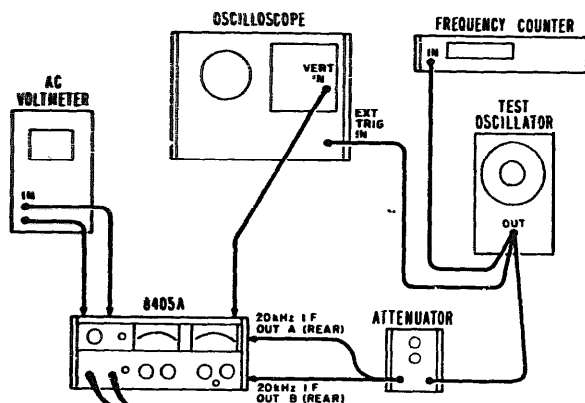

Figure 2B Setup for IF Tuning, IF Gain and PF Sampler Adjustments
- a. **Connect test equipment as shown in Figure 2B. Connect AC Voltmeter between A5Q1 base and 8405A Chassis. Connect Oscilloscope vertical input between A5C4-A5R8 junction and 8405A chassis.**
- a. With test equipment as shown in Figure 2B, and with Circuit Assemblies **A3**, **A4**, **A10** and **A11** still unplugged, put Channel B Isolation Amplifier **A18** on extender **A26**.